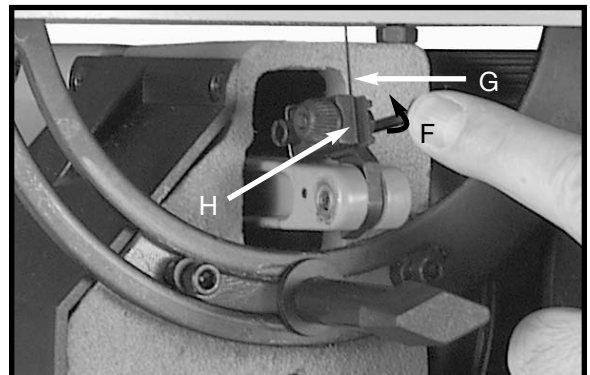
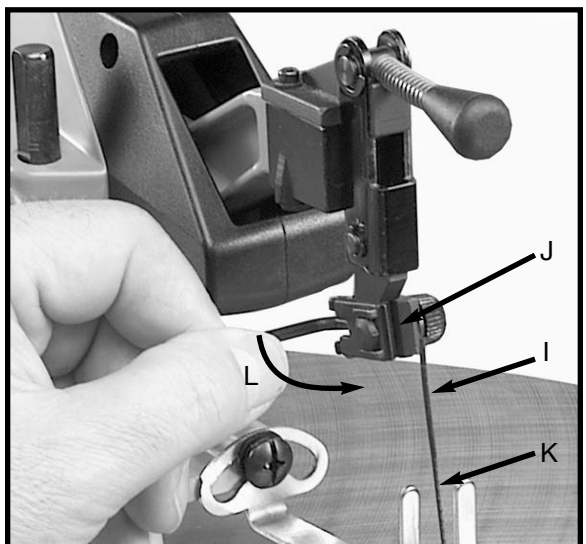

Fig. 13
Fig. 14
5. Push lower blade chuck locking lever (F) Fig. 13, to the rear as shown. This will automatically release the blade (G) from the lower chuck (H).
6. Insert new blade (I) into the upper blade holder (J) making certain the blade teeth are pointing down toward the table. Push upper blade chuck locking lever (L) to the front as shown in Fig. 14. Insert new blade into the lower blade holder Fig. 13 in the same manner.